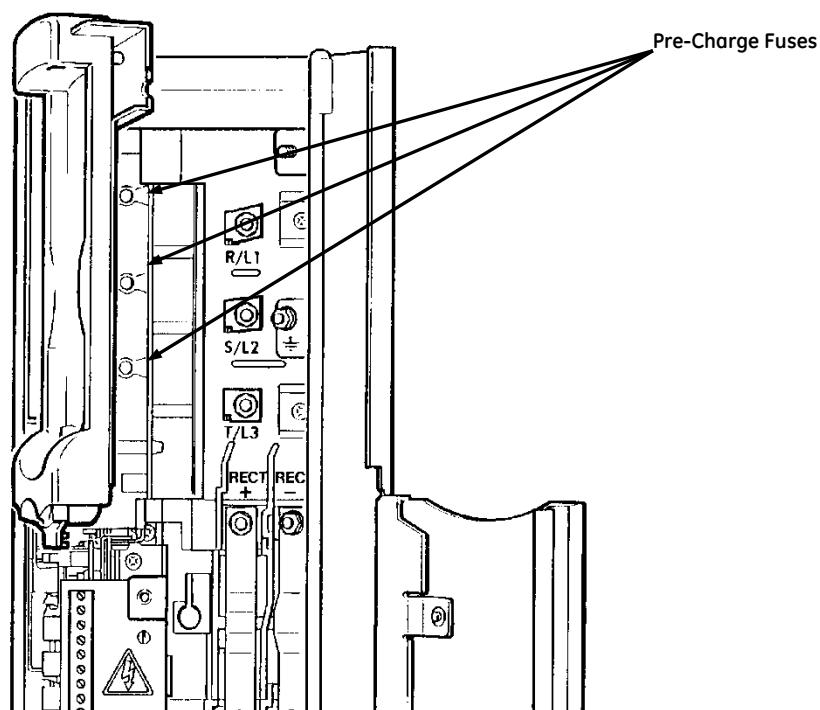

Figure 7-1. – Frame Size 3 & 4 Pre-charge Fuse Access
(See Figure 7-1, size 3 shown).
- b) Locate the three pre-charge fuses mounted on the printed circuit board (pcb), exposed when the cover plate is removed. The pcb is similar to that shown for frame size 3 in Figure 7-1.
- e) On frame size 6 converters, re-fit the cover plate to the converter chassis and secure with the two M5 screws (Z).